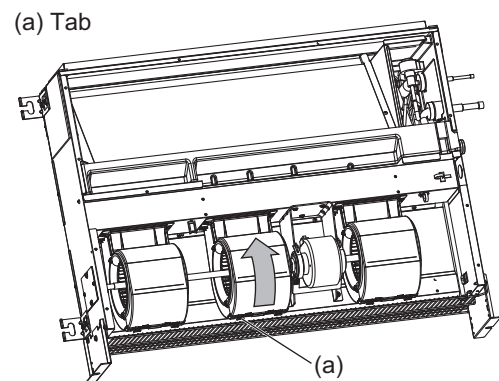

Fig.17
- (1) Squeeze the tabs on the fan casing to remove it in the direction of arrow. (Fig.17)